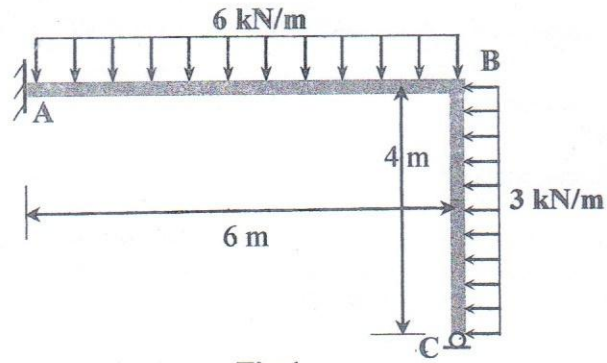

Fig.4
- 4 Using flexibility method determine the reactions of the supports for the frame shown (25) in Fig.4. Also draw the bending moment diagram of each member of the frame. Support A is fixed, and C is roller.  $EI$  is constant.